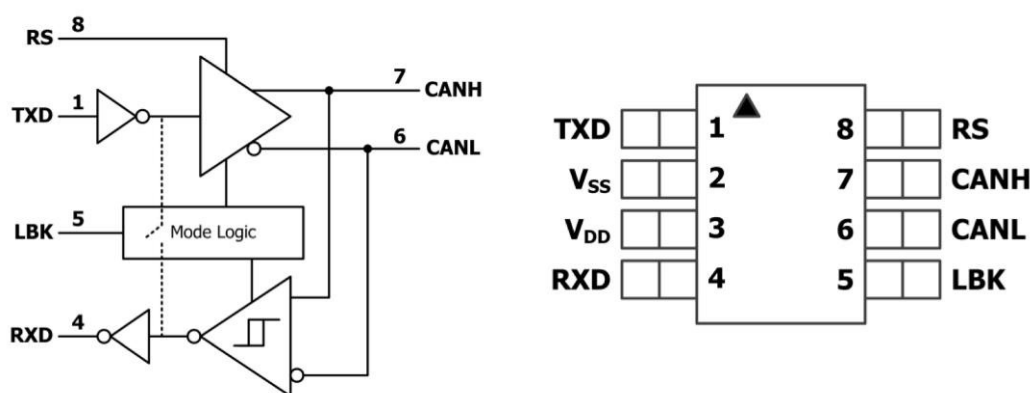

Figure 1: UT64CAN3330 (Sleep)
- Sleep mode (Figure 1)
The UT64CAN3330, Figure 1, provides the option to place the transceiver into a low power sleep mode to conserve power when CAN activity is suspended. Sleep mode disables the driver and receiver circuit when the \overline{ZZ} pin is biased $\leq V_{IL}$. The part resumes operations when the \overline{ZZ} pin is biased $\geq V_{IH}$.